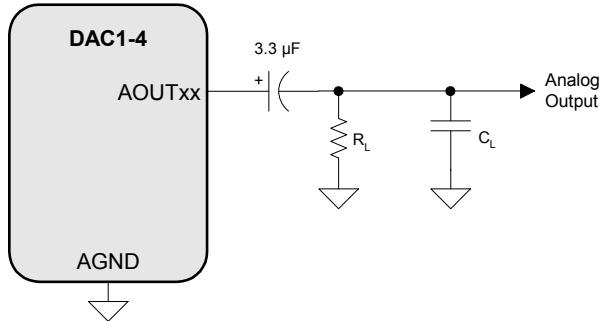

Figure 2. Output Test Circuit for Maximum Load
13. Guaranteed by design. See Figure 2. R_L and C_L reflect the recommended minimum resistance and maximum capacitance required for the internal op-amp's stability and signal integrity. In this circuit topology, C_L will effectively move the dominant pole of the two-pole amp in the output stage. Increasing this value beyond the recommended 100 pF can cause the internal op-amp to become unstable. See "External Filters" on page 51 for a recommended output filter.